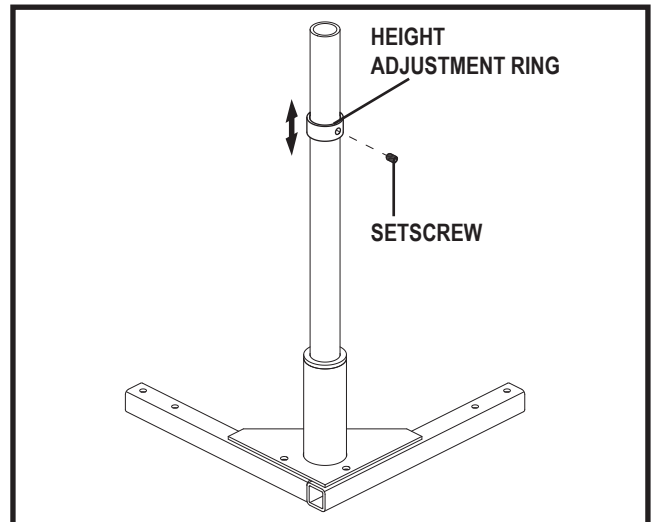
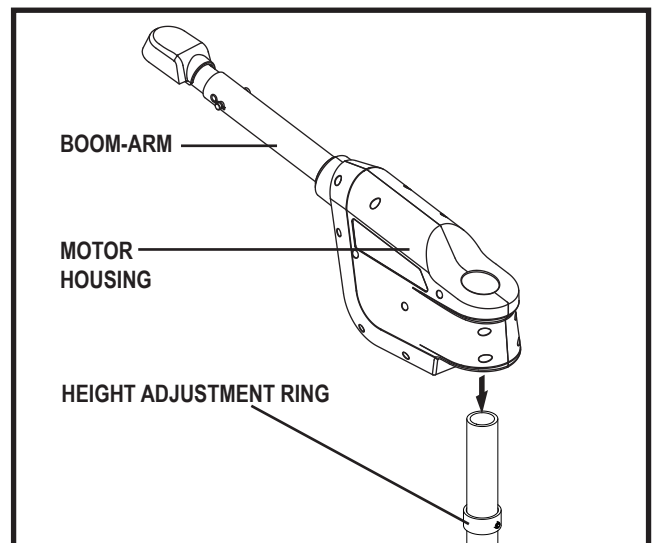
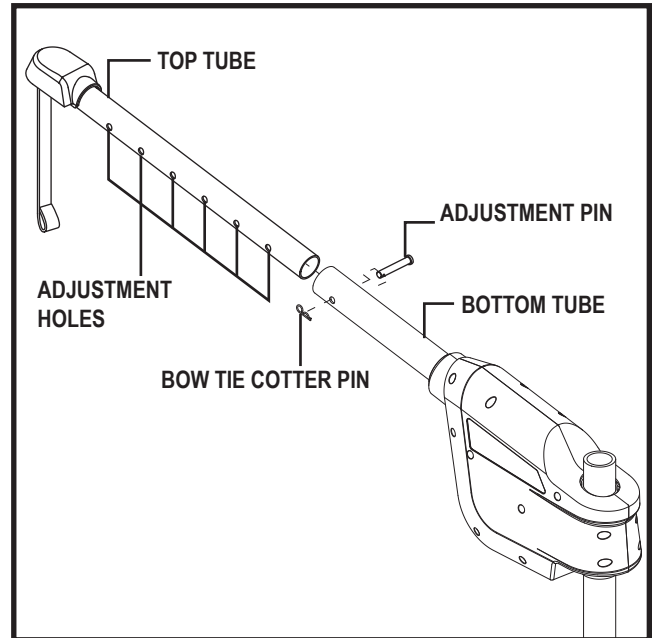

Figure 5. Height Adjustment Ring Assembly
Figure 6. Motor Housing Assembly
Figure 7. Boom Arm Adjustment
2. Slide the height adjustment ring (see figure 5) over the upper post and tighten the setscrew (a good starting point is approximately 12 in. [30.5 cm] down from the top of the upper post). To ensure safe operation, the height adjustment ring must be secured no closer than 6 in. (15 cm) from the top of the upper post.
3. Lower the motor housing over the upper post until it rests on the height adjustment ring. **See figure 6.**
You may need to adjust the height of the motor housing (see figure 6) or the length of the boom-arm (see figure 7) so the boom-arm can swing freely without hitting at any point inside the vehicle.
- The placement of the height adjustment ring determines the height of the motor housing. **See figure 5.**
1. Loosen the setscrew on the ring. **See figure 5.**
Before adjusting the boom-arm, lower the strap about 12 in. (30.5 cm). This will provide enough slack in the strap to enable the adjustable portion of the boom-arm (top tube) to be pulled out of the bottom tube to its farthest adjustment hole. **See figure 7.**
6. Insert the upper post into the support arm, and install the motor housing assembly onto the upper post. **See figures 6 and 13.**
You may need to adjust the height of the motor housing (**see figure 5**) or the length of the boom-arm (**see figure 7**) so the boom-arm can swing freely without hitting at any point inside the vehicle. See "Motor Housing Height Adjustment" and "Boom-Arm Adjustment."